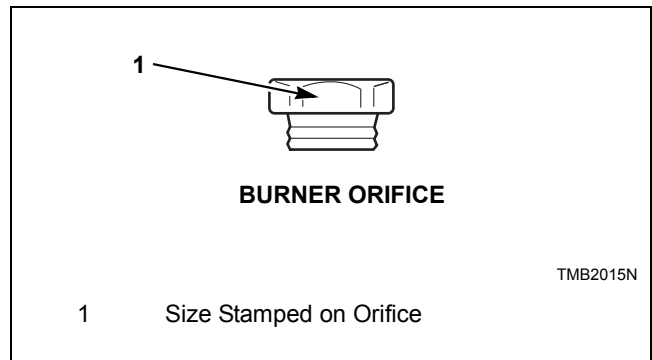

Figure 4
3. Install the new, correct orifices. Refer to *Figure 4*. Torque each to 9-10 Nm.